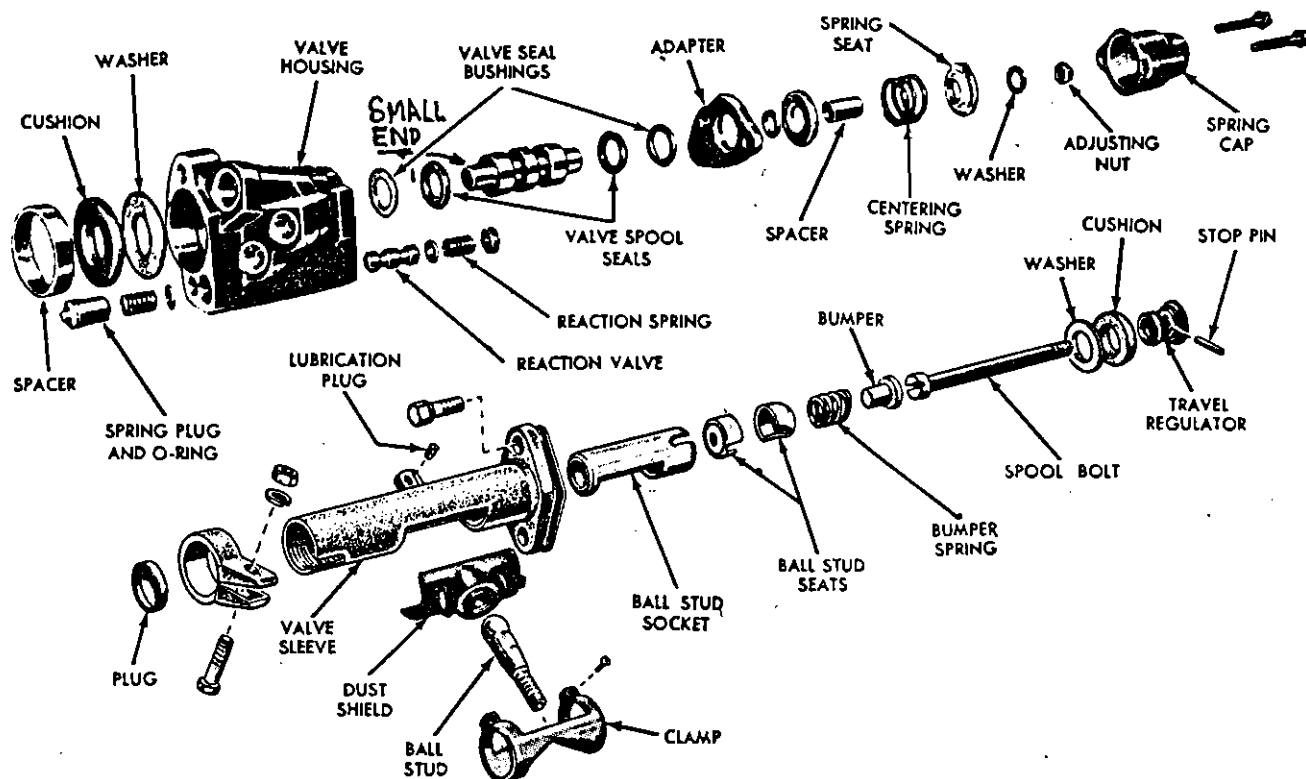

FIG. 38—Control Valve Disassembled—Typical
5. Place the other ball stud seat, the spring, and the bumper (Fig. 38) in the socket, and install and securely tighten the travel regulator stop.